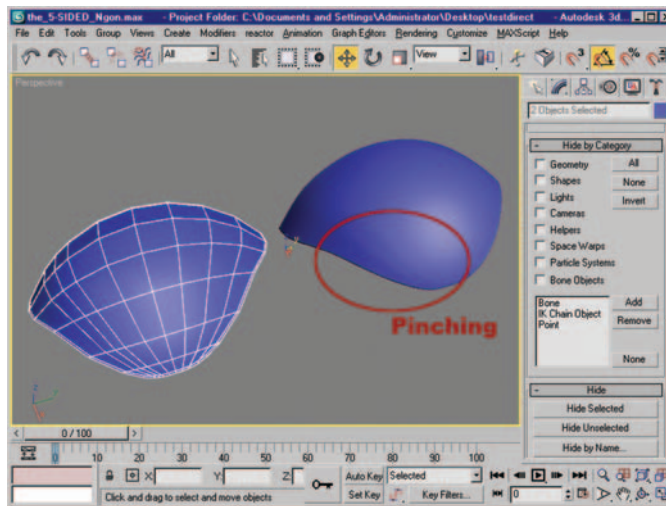
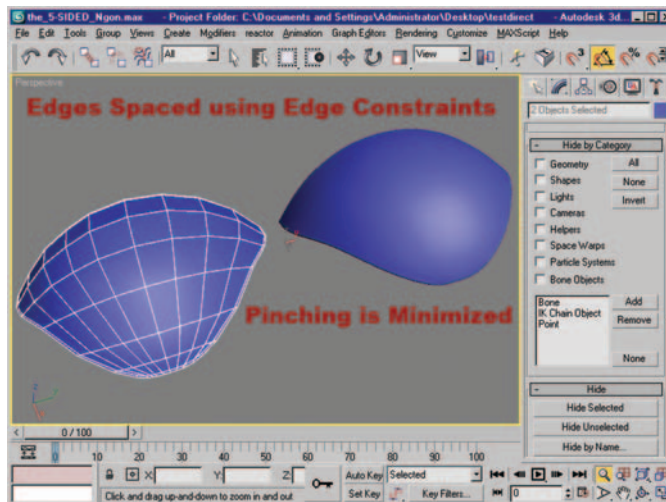

Figure 6.57 Five-sided N -gon eliminated by continuing the edge along in the same direction; unwanted creasing occurs.
Figure 6.58 Adjusting edge spacing with Edge Constraints minimizes the appearance of creasing.
4. The next set of meshes shows what happens if we were to continue the edge line to the end of the mesh. The meshes in Figure 6.57 show that the change of edge proximity does cause a crease or wrinkle in the mesh. This happens often, so you need to think carefully when routing your edges. In this instance, you can adjust the spacing of the edges and be left with a more than acceptable result (Figure 6.58).